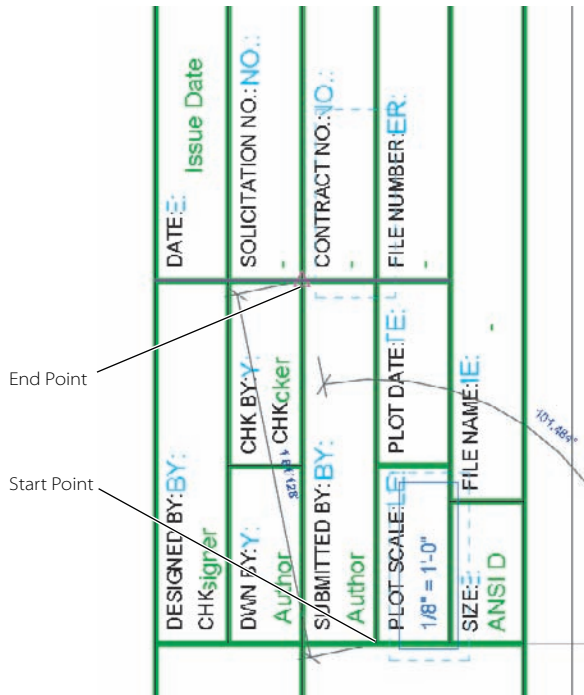

Figure 14.6
1. On the Manage tab's Settings panel, click Shared Parameters. This will open the Edit Shared Parameters dialog box (Figure 14.6).